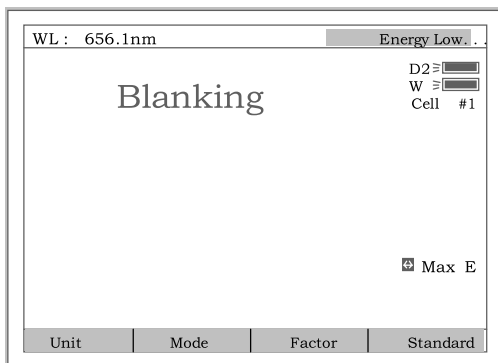
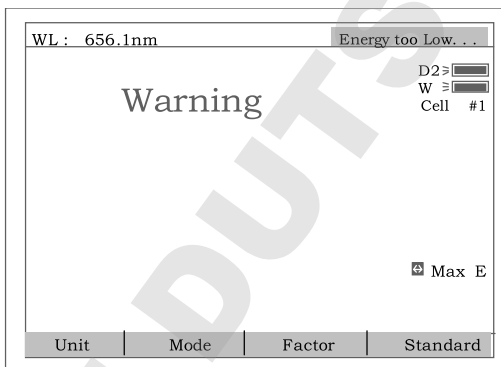

Fig 7
Fig 8
**Note:1.** If the reference solution is too thick, “Energy Low...” will appear following the “Blanking...” on the screen (Fig 7). If “Energy too Low...” appears following the “Blanking...”, the test will be paused and “Warning...” will appear on the screen. (Fig 8).
2. If no automatic changer installed “cell #1” and “Max E” will disappear in Fig 7